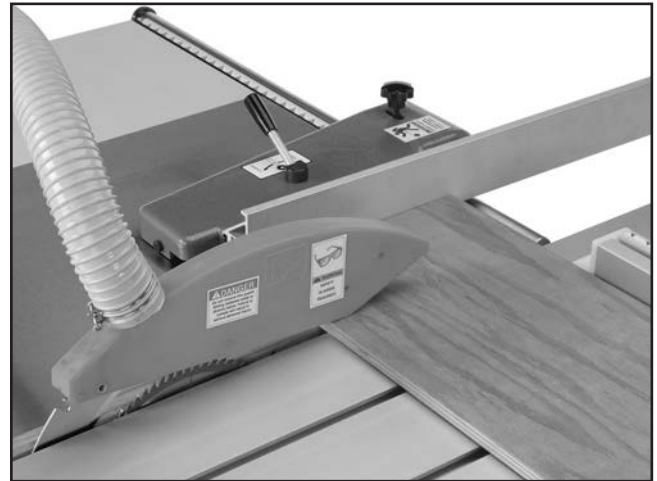

Figure 91. Crosscutting workpieces using the rip fence as a cut-off gauge.
Lastly, this machine has the capability of crosscutting workpieces while using the rip fence as a cut-off gauge (**Figure 91**).
4. Load the workpiece onto the table saw. The setup should look similar to **Figure 91**.